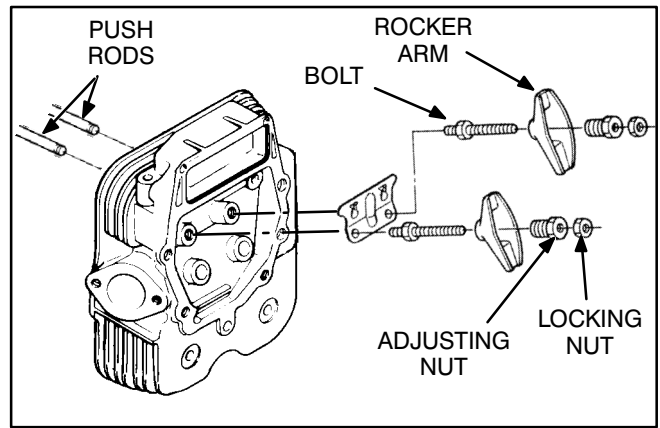

FIGURE 10-4. ROCKER ARM AND PUSH ROD REMOVAL
1. Remove the rocker arm mounting nuts, rocker arms and push rods (Figure 10-4).